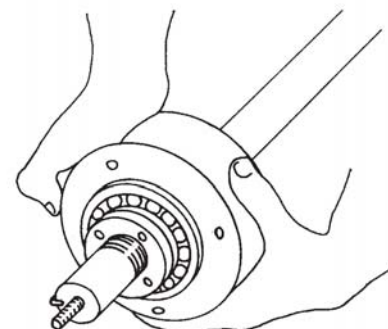

FIG.10
- 10) Reassemble the ball bearings (pos. 53 – 54) on the metal bush (pos. 82). Once the rotor has been recomposed insert it into the support (pos. 83) **fig 10** and proceed in the opposite way of point 8.